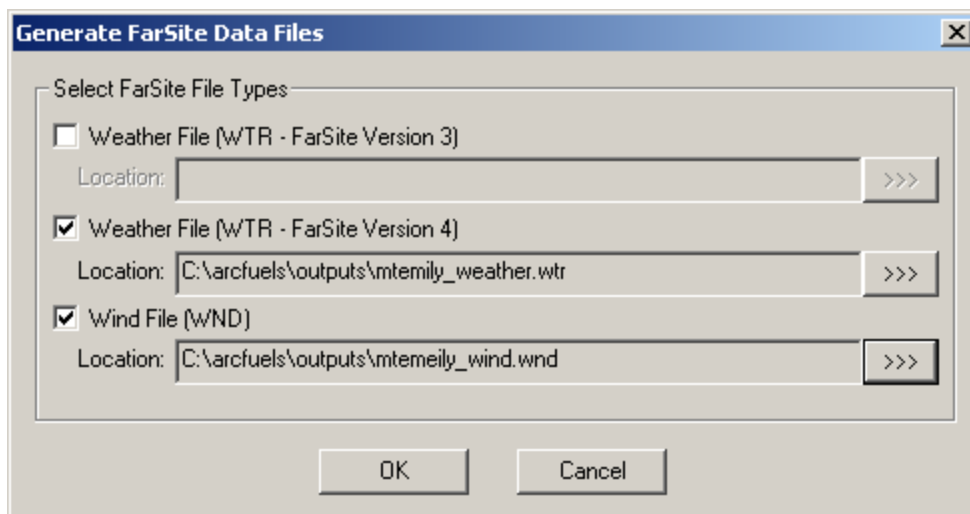

Figure 3-34—Generating FarSite Data Files form.
- 2) Open the **Generate FarSite Data Files** form (FFP menu bar→Weather→Hourly Data Analysis→FarSite Exports, fig. 3-34).